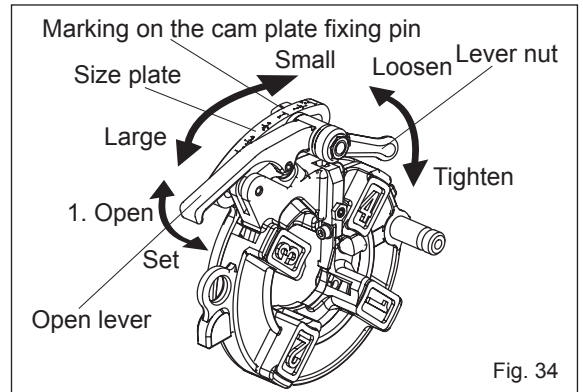

Fig. 34
- Loosen the lever nut on the die head and match the marking on the cam plate fixing pin with the pipe size on the size plate; then retighten the lever nut. (Fig. 34)